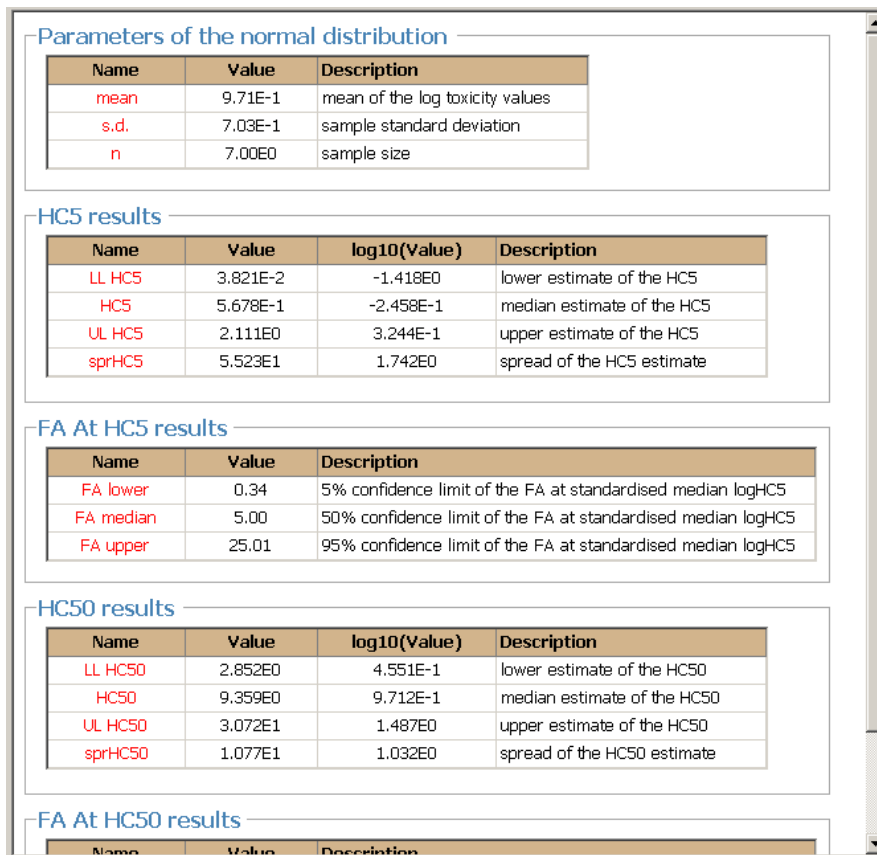

Figure 26. Output of statistical parameters for HC5, HC₅₀ and FA calculation.
- ▶ After having selected 'NOEC' in the **Specifics** box, press **Calculate, Go** in the Standard Menu bar. After performing the calculation, *E_TX* automatically switches to the **Hazardous concentration sheet** in the **Statistics section** (Figure 26, shown at the next page).